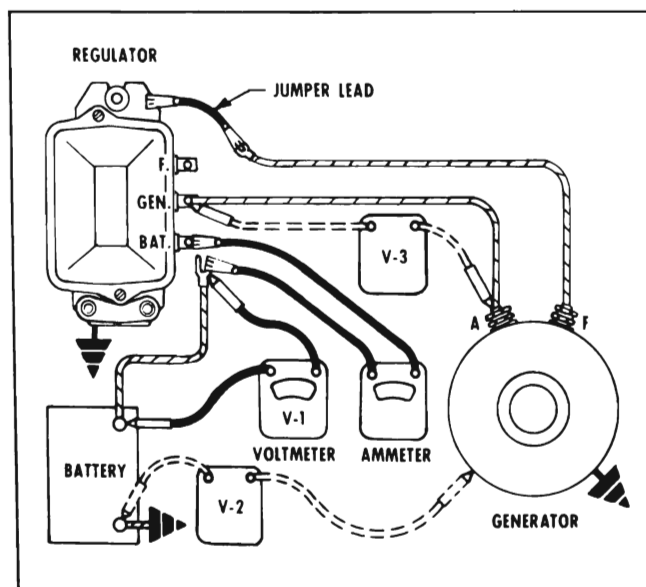

Figure 10-13—Testing Charging Circuit Voltage Drop
1. Make sure that all accessories are turned off. Also make sure that ammeter is in place and that field lead is grounded. See Figure 10-13.